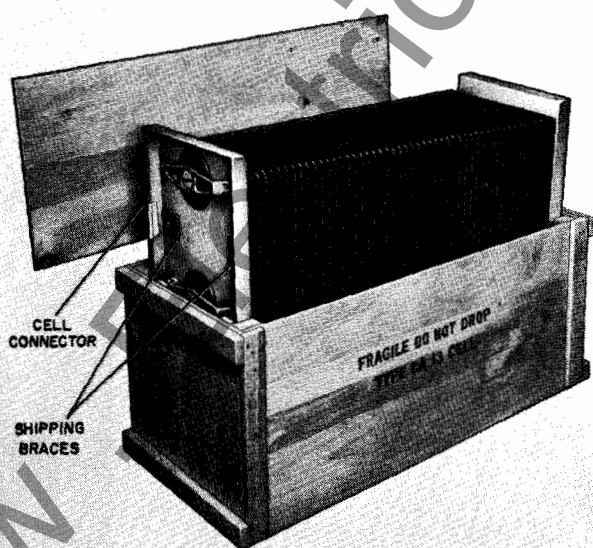
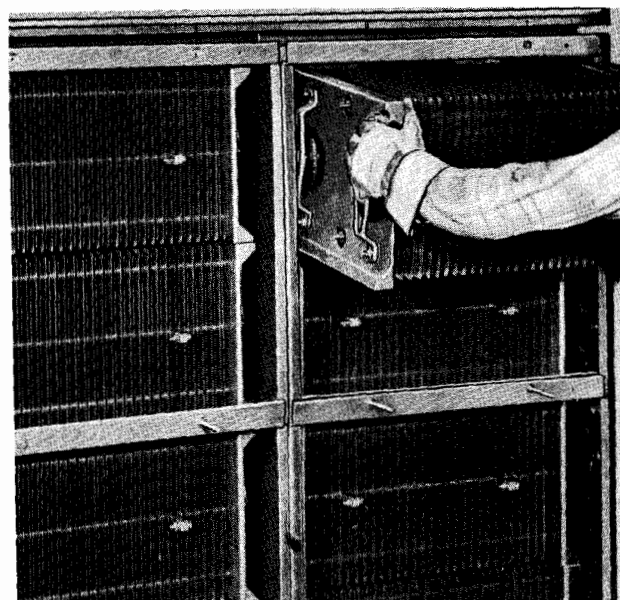

Fig. 10 Details of Cell Packing
Fig. 11 Installing the Cells
**Cells** should be handled by the end frames to prevent damage. Remove and discard the shipping braces from the ends of the cells. These braces will cause a short circuit if not removed. See Fig. 10. Also remove the tier connectors which are taped on the cells, but save them for high voltage connections later. Carefully inspect all cells to be sure plates are evenly spaced and undamaged. Install cells with the connector posts pointing toward the outlet air side. See Fig. 11. Push cells into frames as far as they will go.